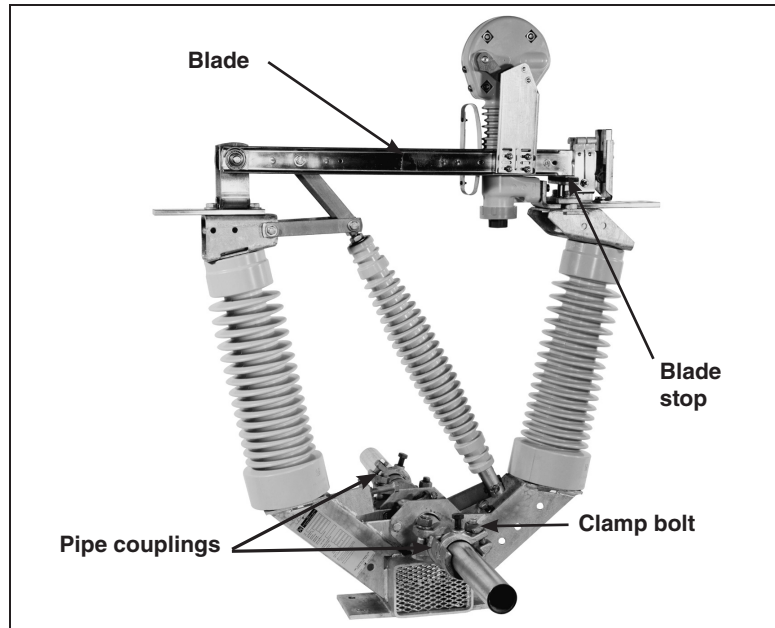

Figure 33. Readjust the interphase pipe.
- (c) In the unlikely event only one or two switch poles are fully closed, loosen the clamp bolt(s) on the interphase pipe coupling(s) and push the switch blade(s) against the blade stop(s). Torque the clamp bolt of each pipe-coupling clamp to final tightness, and then tighten the associated piercing set screws, piercing the pipe. Continue turning until a firm resistance is felt. See Figure 33.